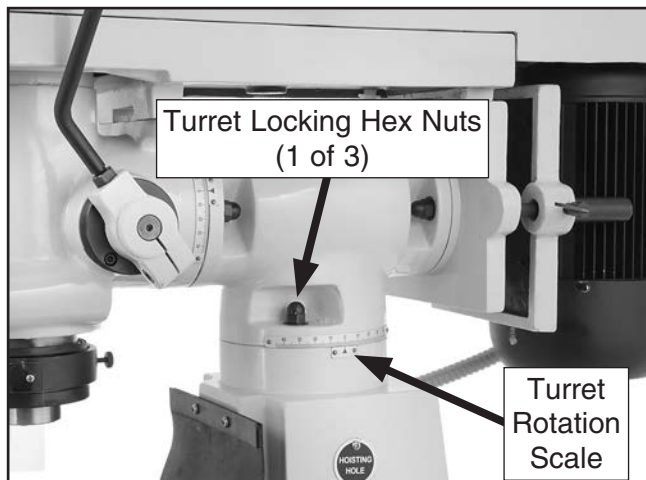

Figure 24. Turret rotation locking hex nuts (1 of 3 shown).
2. Loosen the three locking hex nuts on the turret (see **Figure 24**).